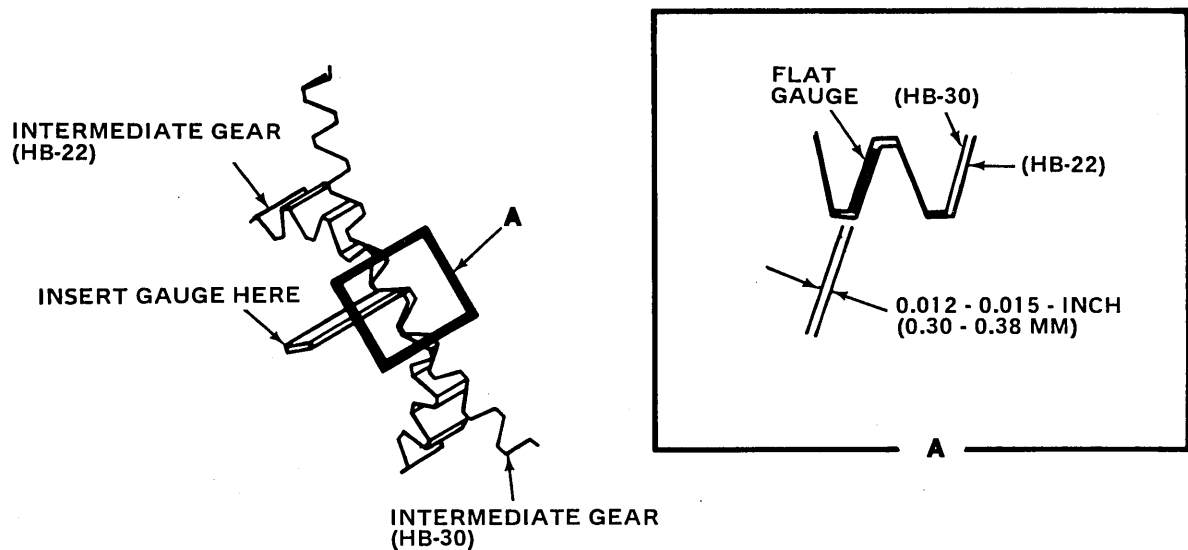

Figure 5-4. USE OF FEELER GAUGE FOR BACKLASH ADJUSTMENT, (HB-30, 22)
- c. Insert feeler gauge between the sides of two meshed gear teeth for a minimum gap of 0.012-inch through a maximum gap of 0.015-inch (0.30 to 0.38 mm max). (See Fig. 5-4).